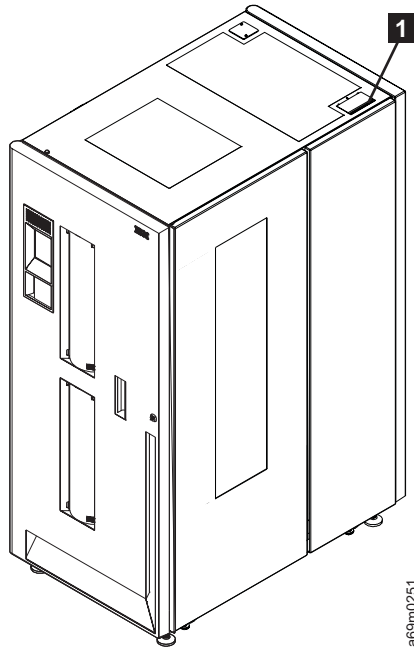
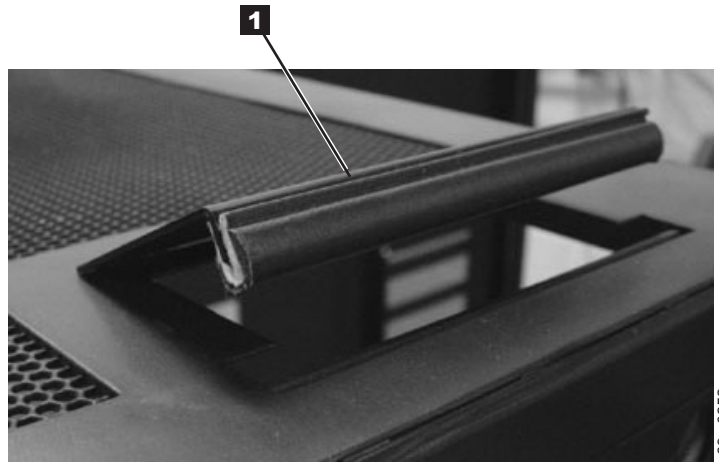

Figure 21. Opening for routing Fibre Channel cables from servers through the top of a frame
Figure 22. Opening the cable access door at the top of a frame
1. Open the cable access door at the top of the frame (see **1** in Figure 21 on page 111, and Figure 22 on page 111).